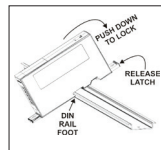

Figure 2
4. To install a ZBS surge protector on a Din Rail, locate the Din Rail foot over the Din Rail and securely push the brass clip onto the Din Rail. Rotate downward and push the ZBS onto the Din Rail until the latch snaps on to the rail. (see figure 2).